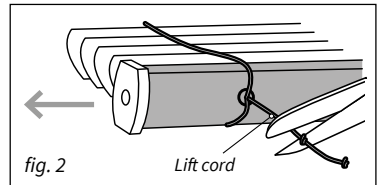

fig. 2
**6.4** Cut lift cord 2cm above cap and remove. Pull the lift cord from the bottom weight bar to allow it to slide out of the ladder rung [fig. 2].